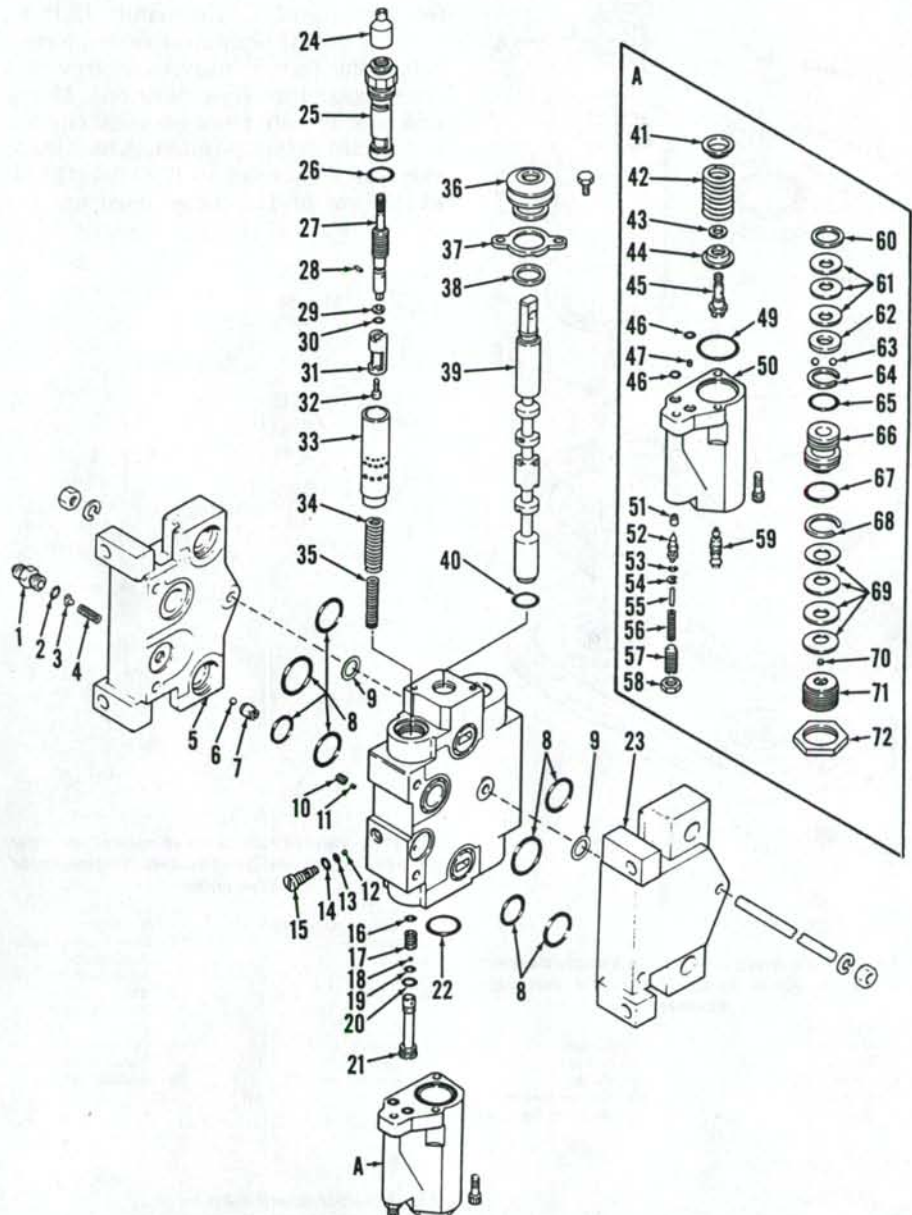
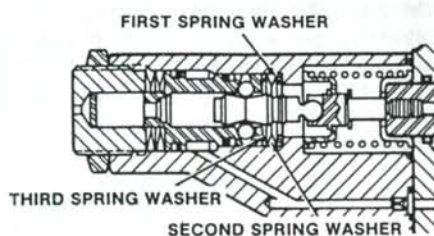

Fig. 258—Exploded view of typical remote valve used on all models. Insert "A" is exploded view of detent housing components.
Fig. 259—Cross-sectional view of detent housing showing spring washer placement. Refer to text.
258. OVERHAUL. With valve removed from tractor as outlined in paragraph 257, remove inlet and outlet connectors and "O" rings from inlet cover (5—Fig. 258). Remove compensator inlet fitting (1), "O" ring (2), retainer (3), spring (4) and ball (6). Remove nuts and washers and remove inlet cover (5) from body. Remove the three metal shims (9) and four "O" rings (8) from cover. Remove valve seat (7), if necessary, pushing from outside of cover.
Remove end cover (23) and remove shims (9) and "O" rings (8) from end cover. Remove linkage pins (8—Fig. 254) and bellcrank (9) from eyebolt (11). Index eyebolt depth in valve body, loosen locknut (12) and remove eyebolt (11). Unbolt and remove dust cover (36—Fig. 258), retainer (37) and filter (38) from body. If equipped, loosen set screw (18—Fig. 254) and remove flow control knob (19). Remove flow control housing (items 24 through 32—Fig. 258), spool (33) and springs (34 and 35) from body.
Clean and inspect all parts for excessive wear or other damage. Inspect spool (39—Fig. 258) and bore of valve
Reassemble by reversing disassembly procedure, paying attention to the following: Tighten primary shuttle housing in valve body to 3-6 ft.-lbs. (4-8 N·m) torque. Free length of centering spring (42) is 2.50 inches (63.50 mm) and compressed length is 1.375 inches (34.925 mm) at 18-22 lbs. (80-98 N). Use Loctite 271 or equivalent on detent pivot coupling (45) and tighten to 6-10 ft.-lbs. (8-14 N·m) torque. Tighten detent housing to valve body cap screws to 6-10 ft.-lbs. (8-14 N·m) torque. Install hardened washer (60) over detent pivot shaft. Install a spring washer (61), concave side against hardened washer (60), then second spring washer with convex side against first washer and third spring washer with concave side against second spring washer. See Fig. 259. Install ball retainer (62—Fig. 258), flat side against spring washer and install the seven balls (63) on retainer (62). Install piston (66) with new rings (64, 65, 67 and 68).
Concave surface of piston (66) must seat against detent balls. Install concave springs (69) with first spring concave surface against piston, then alternating as previously described and referring to Fig. 259. Install indexed detent plug and locknut (70, 71 and 72—Fig. 258). Install poppet assembly (items 51 through 58). Poppet spring free length is 1.050 inch (26.670 mm) and compressed length should be 1.000 inch (25.40 mm) at 8.5 to 10.5 lbs. (38-47 N).
Use Loctite 271 or equivalent on cap screw (32—Fig. 258), install and tighten to 6-10 ft.-lbs. (8-14 N·m) torque while securing shaft in a vise to prevent bending roll pin. Outer flow control spring (34) free length is 2.401 inches (60.985 mm) and compressed length should be 1.01 inches (25.654 mm) at 30.6 to 34.9 lbs. (136-155 N). Inner flow control spring (35) free length is 2.218 inches (56.337 mm) and compressed length should be 1.01 inches (25.654 mm) at 15.6 to 18 lbs. (70-80 N). Install flow control spool, small end first into valve body. Install flow control assembly and tighten to 18-22 ft.-lbs. (24-30 N·m) torque. Balance of reassembly is reverse of disassembly.